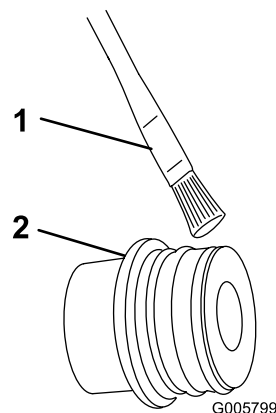

Figure 22
4. Brush a non-petroleum based lubricate such as vegetable oil on the bulkhead fitting reducer and O-ring (Figure 22)
3. Brush a non-petroleum based lubricate such as vegetable oil on the bulkhead fitting reducer (Figure 22).